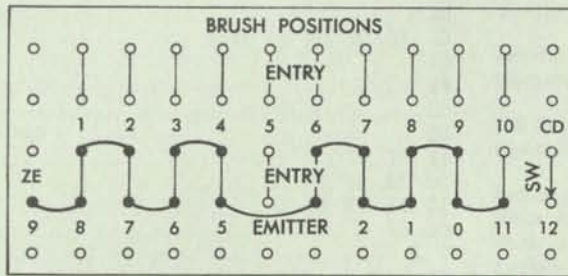

Figure 46. Zero Elimination (83)
Figure 46 shows sorting in numerical sequence columns 5-14, omitting column 9. Columns 14, 13,
3. At the end of the length-of-field sort, the cards are in the pockets according to the pattern in Figure 46.